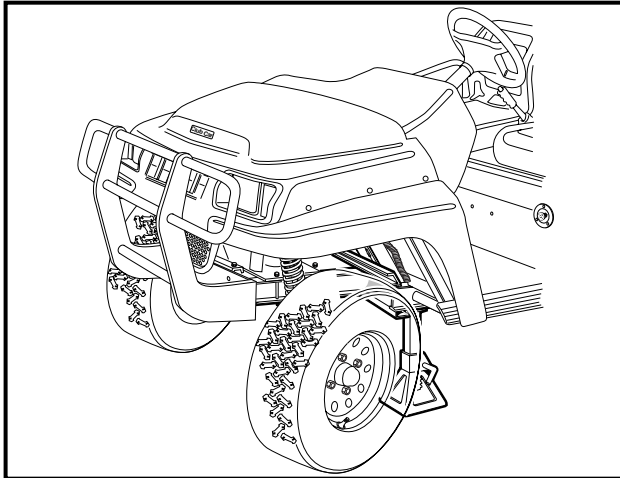

Figure 5-2 Jack Stand Location on I-Beam
4. Place chocks under rear wheels and lift front end of vehicle with a chain hoist or floor jack. Place jack stands under the outer front I-beam of the vehicle frame and lower the vehicle onto the jack stands (Figure 5-2, Page 5-3). **See following WARNING.**
3. Place chocks under the rear wheels and lift the front end of the vehicle with a chain hoist or floor jack. Place jack stands under the outer front I-beam of the vehicle frame and lower the vehicle onto the jack stands (**Figure 5-2, Page 5-3**).